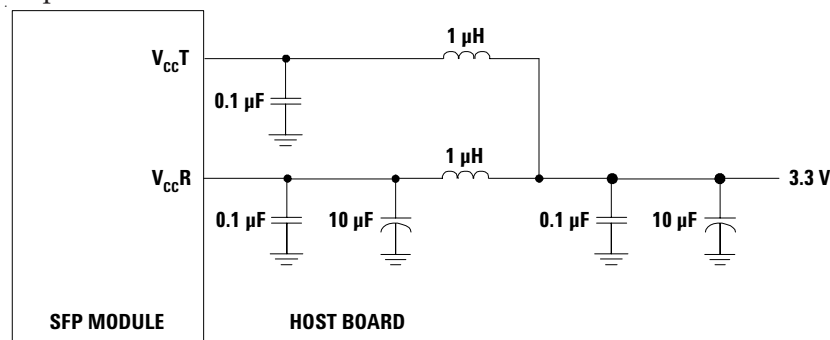

Figure 1 - MSA required power supply filter
The HFCT-5701L/LP can withstand an injection of PSN on the  $V_{CC}$  lines of 100 mV ac without a degradation in eye mask margin to 10% on the transmitter and a 1 dB sensitivity penalty on the receiver. This occurs when the product is used in conjunction with the MSA recommended power supply filter shown in Figure 1.
2. MSA filter is required on host board 10 Hz to 1 MHz. See Figure 1 (Page 2)